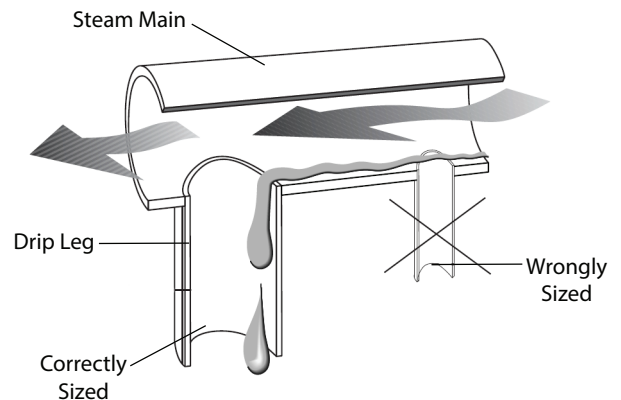

Figure 2.1
4. What little condensate there is on superheat and high pressure/low load service usually forms in drip legs and in the trap themselves. Therefore, proper piping and drip legs of adequate size and diameter are essential for the successful operation of the Armstrong bimetallic traps, see Chart 2.1 and Figure 2.1.
7. See Figures 2.1 and 2.2 for complete installation following the above guidelines.